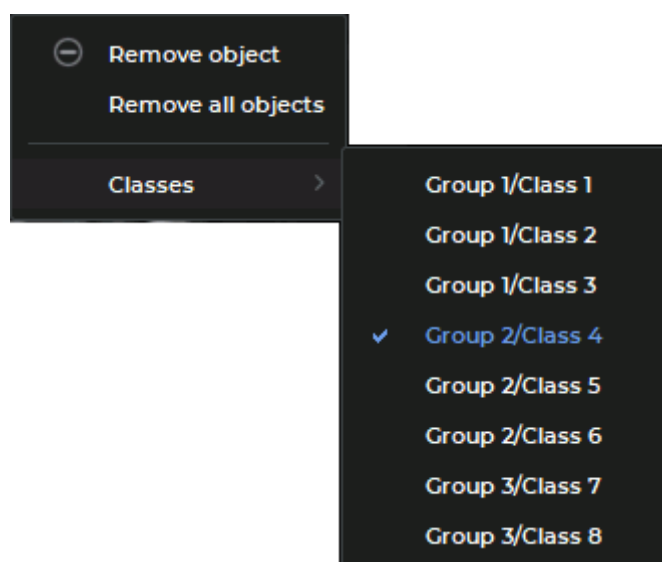

Figure 11.5: Right-click menu for object contours
2. Click the right mouse button and select the **Classes** option from the right-click menu (Fig. 11.5). The group and the class of the selected object contour are ticked on the dropdown list.